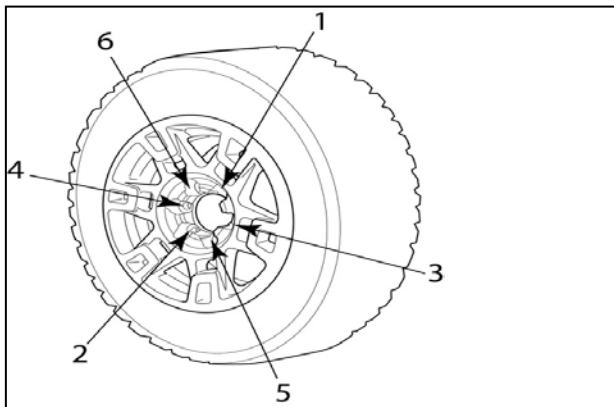

Fig. 8-1
- (a) Install wheel and tire assemblies on vehicle. Hand-start the Flat-Seat OE lug nuts during installation. NOTE: Do NOT use Conical-Seat Acorn lug nuts. These Wheels require Flat-Seat Lugnuts. Tighten lug nuts in sequence 1 through 6 (Fig. 8-1). Ensure that the socket does not scuff the wheels.
(d) **Re-Torque all lug nuts in sequence 1 through 6 (Fig 8-1).**